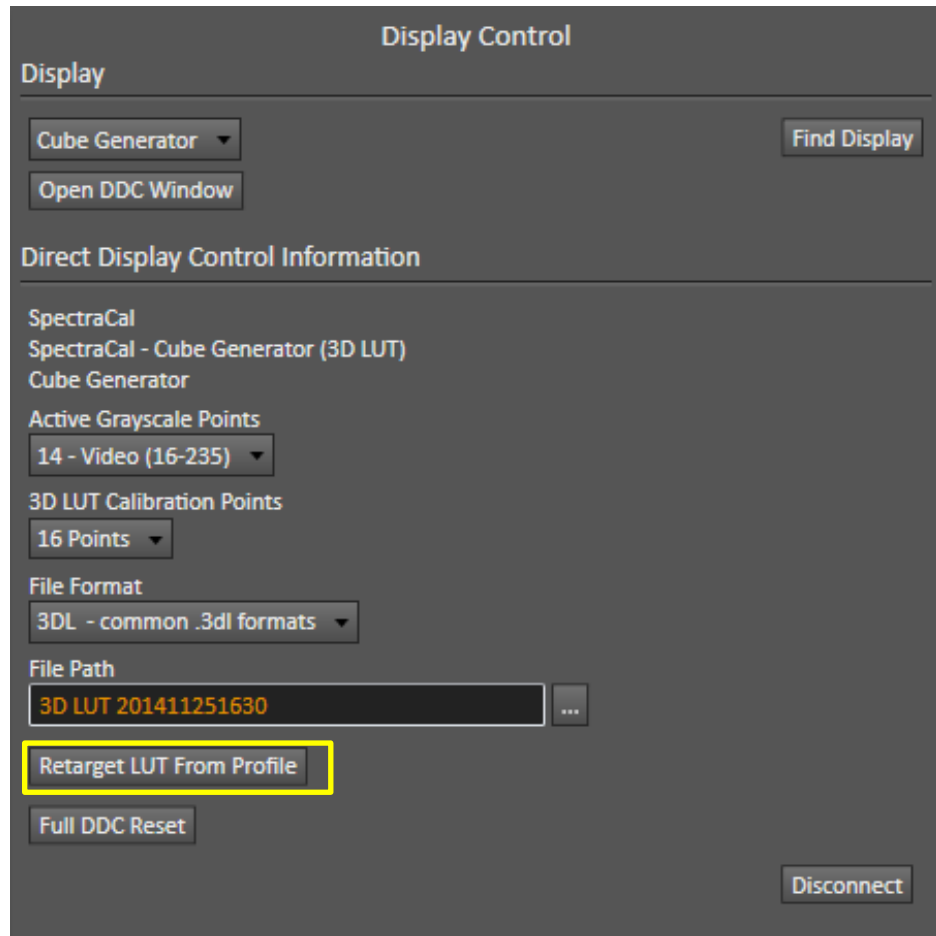

Figure 6: On the CalMAN *Display Control* tab, click the “Retarget LUT From Profile” button to create an additional LUT with different calibration targets.
1. On the CalMAN *Display Control* tab (Figure 6), click the “Retarget LUT From Profile” button.